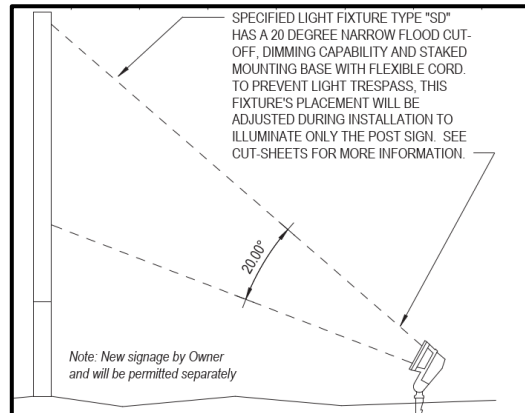

Figure 9: Lighting Cutoff Exhibit
A total of four (4) types of fixtures is being proposed in conjunction with this request. Soffit lighting will be used beneath the second story of the addition for the pedestrian plaza, along with bollard lighting in and around the courtyard. Both of these fixtures are currently found onsite. One (1) pole fixture will be added to the gate area on the southern access point for security, which will also match other pole fixtures found onsite. Lastly, a ground-mounted up-lighting fixture will be utilized at the east access point to illuminate a freestanding sign. This type of upward lighting may only be approved by Planning Commission as an alternative to a fully-shielded fixture. The applicant has provided a diagram showing that no light will trespass upward beyond the sign face in the ARB packet, as shown in Figure 9.